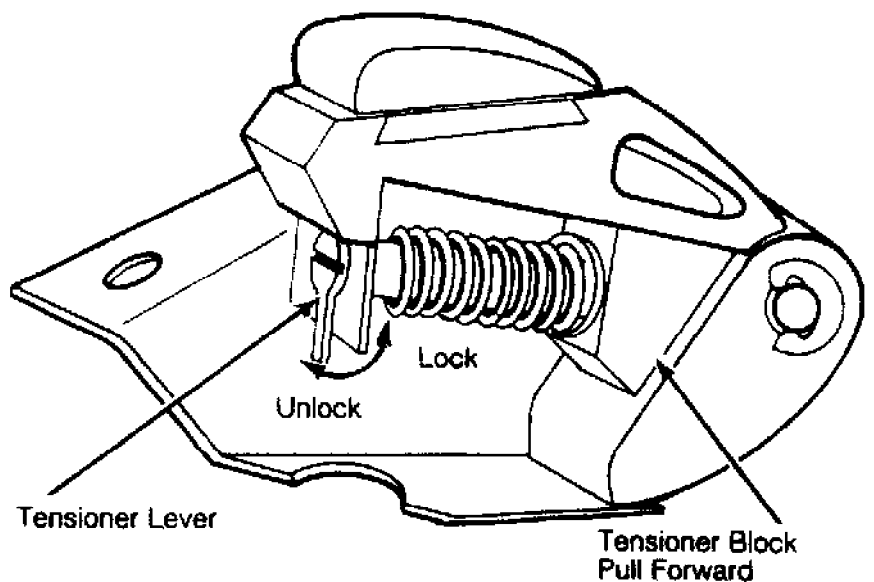

Fig. 3: Location of Chain Tensioner Lock
2) Remove valve lifters. Mark lifters for location. Remove crankshaft oil slinger. Pull chain tensioner block toward tensioner lever to compress spring. Hold block and move tensioner lever to lock position. See Fig. 3.